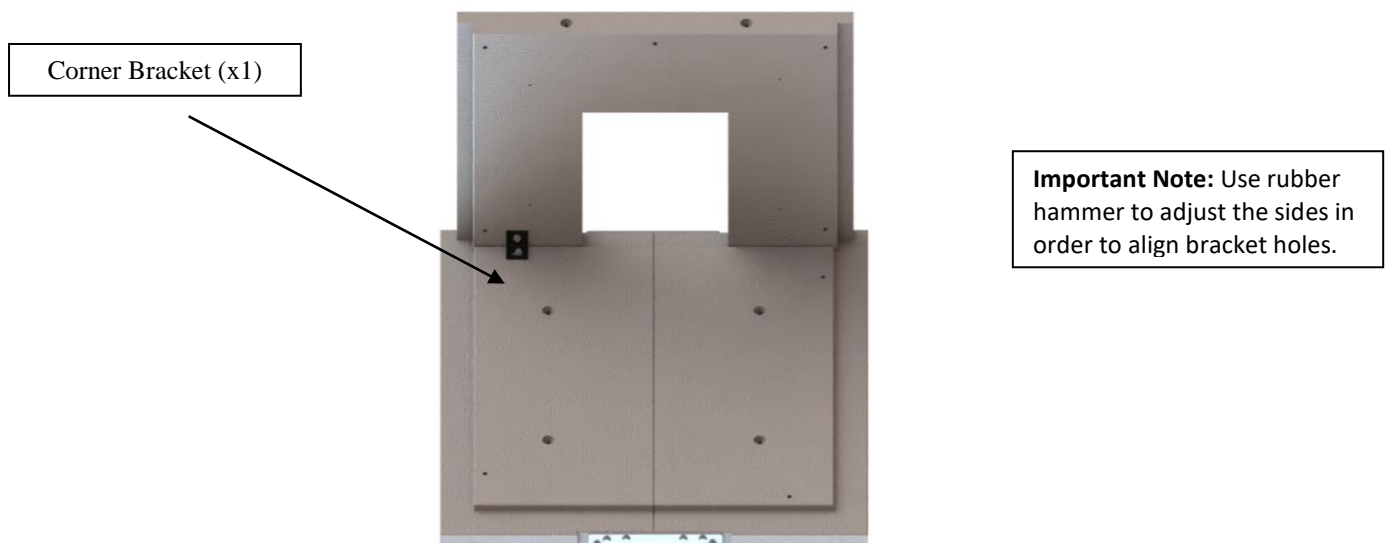

Figure 3
9. Position Corner Bracket by aligning floor and side ferrules as shown in Figure 3. Use M16 Hex Head Bolts and M16 Washers for fastening. Don't overtight the bolts at this stage. Keep them loose so that the brackets can be adjusted accordingly.